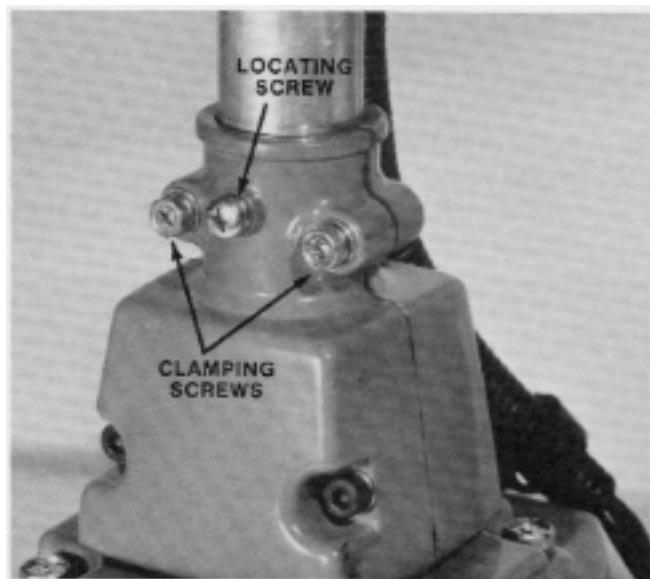

Figure 82
1. Remove the single locating screw and the two clamping screws that secure the engine to the drive tube and separate the engine from the drive tube. See Figure 82.